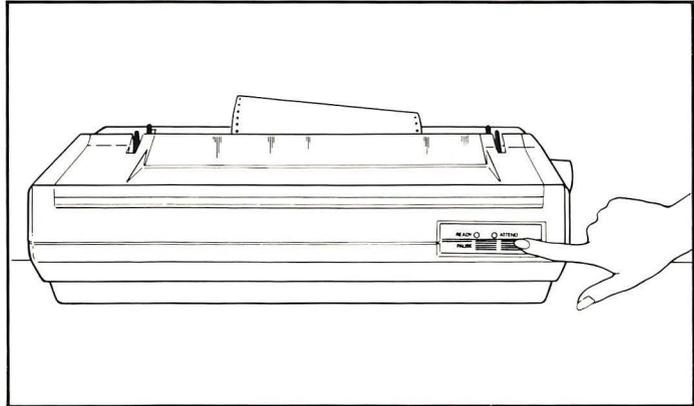

Figure 13. Setting the Top-of-Form Position
3. Press the **form feed** switch as shown in Figure 13. Paper will advance through the printer and stop.